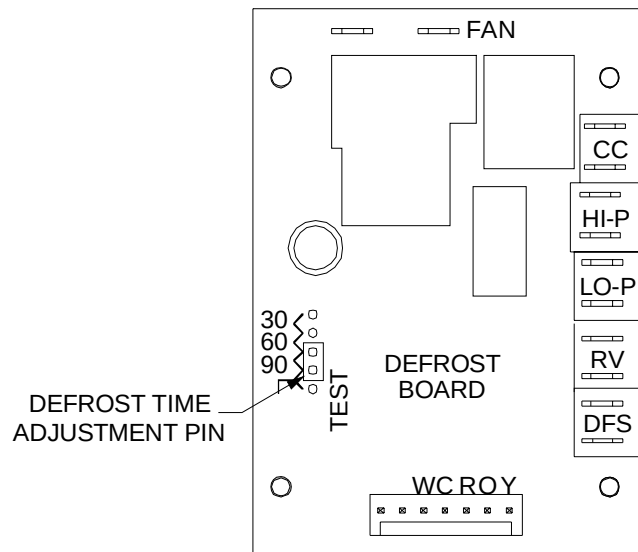

Figure 6
2. Move the defrost time adjustment pin from 90 minutes to 60 minutes or 30 minutes as required (refer to Figure 6).